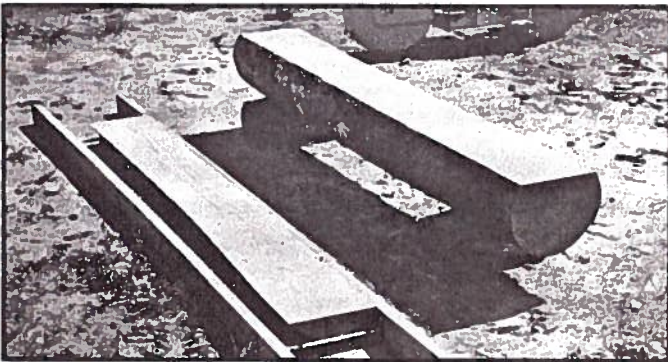

Fig. 49
6. Fig. 49, shows the top of the log and guide rail assembly removed from the saw.